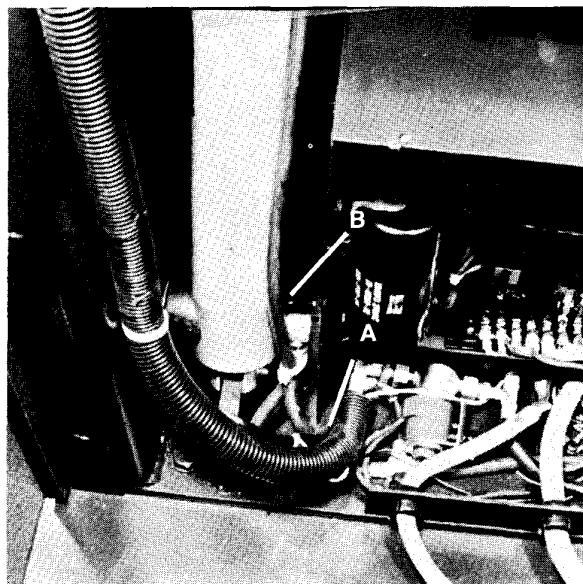

Fig. 16
- 3) Unfasten PC board holder from chair base by removing (1) screw, Item A, Fig. 16 and (2) screws, Item B, Fig. 16.
- 4) Replace PC board holder by installing (1) screw, Item A, Fig. 16 and (2) screws, Item B, Fig. 16.